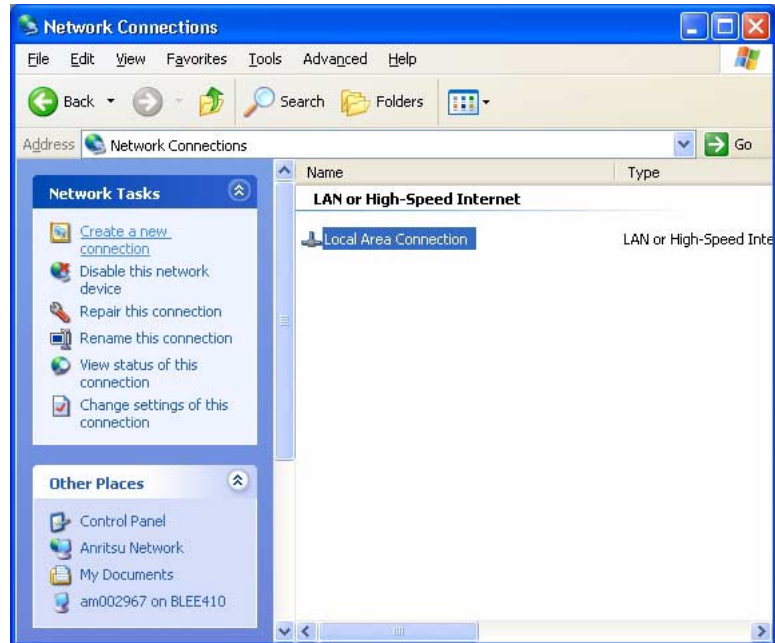

Figure 2-17. Network Connections
Step 11. If a connection needs to be manually set up or modified, you can right click on the connection name in the Network Connections window (Figure 2-17) and select Properties from the pop-up dialog box.